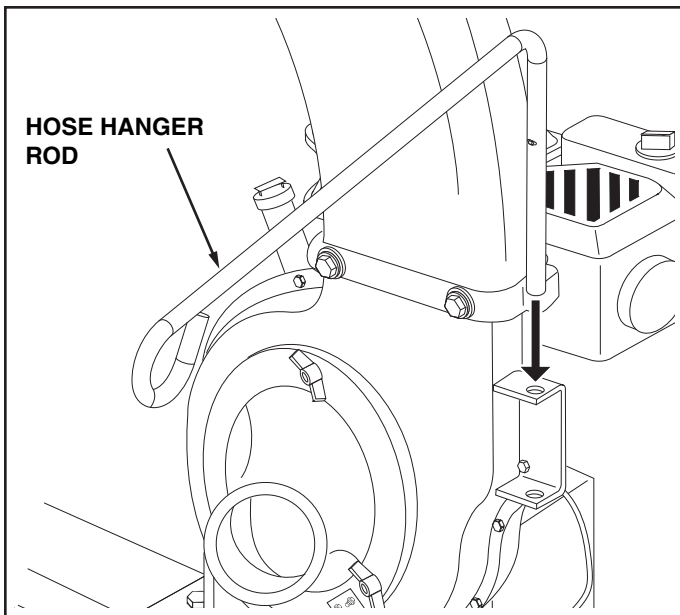

FIGURE 10
- Place the hose hanger rod down into the hose hanger bracket on the impeller housing assembly. See figure 10.